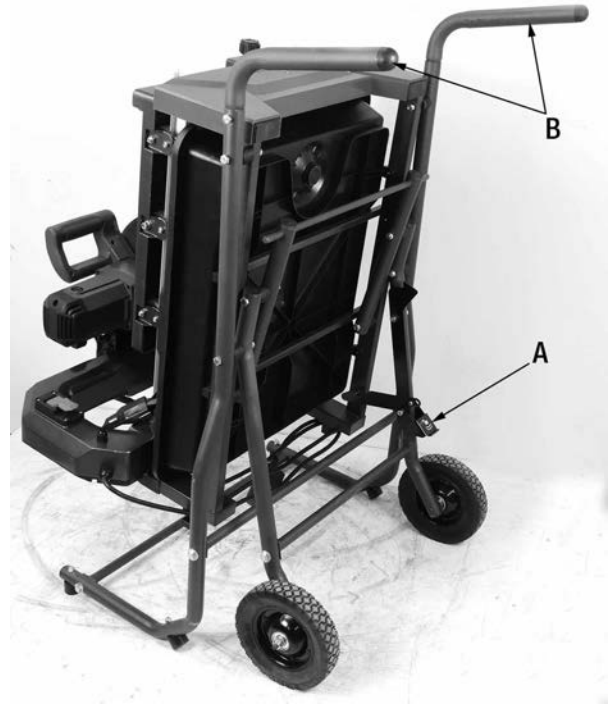

FIGURE 26
- 2) To close or “fold” the folding stand, step on the foot release lever (A) Fig.26, and raise the two handles (B). Raise the two handles until the foot release lever (A) clicks and locks. Fig.26 shows the stand in the folded position, the Tile Saw can now be tilted and rolled around.
- 3) To open or “unfold” the folding stand, step on the foot release lever (A) Fig.26, and lower the two handles (B) to raise the entire Tile Saw in the upright open position. Lower the two handles until the foot release lever (A) clicks and locks. The Tile saw can now be used in its new location.